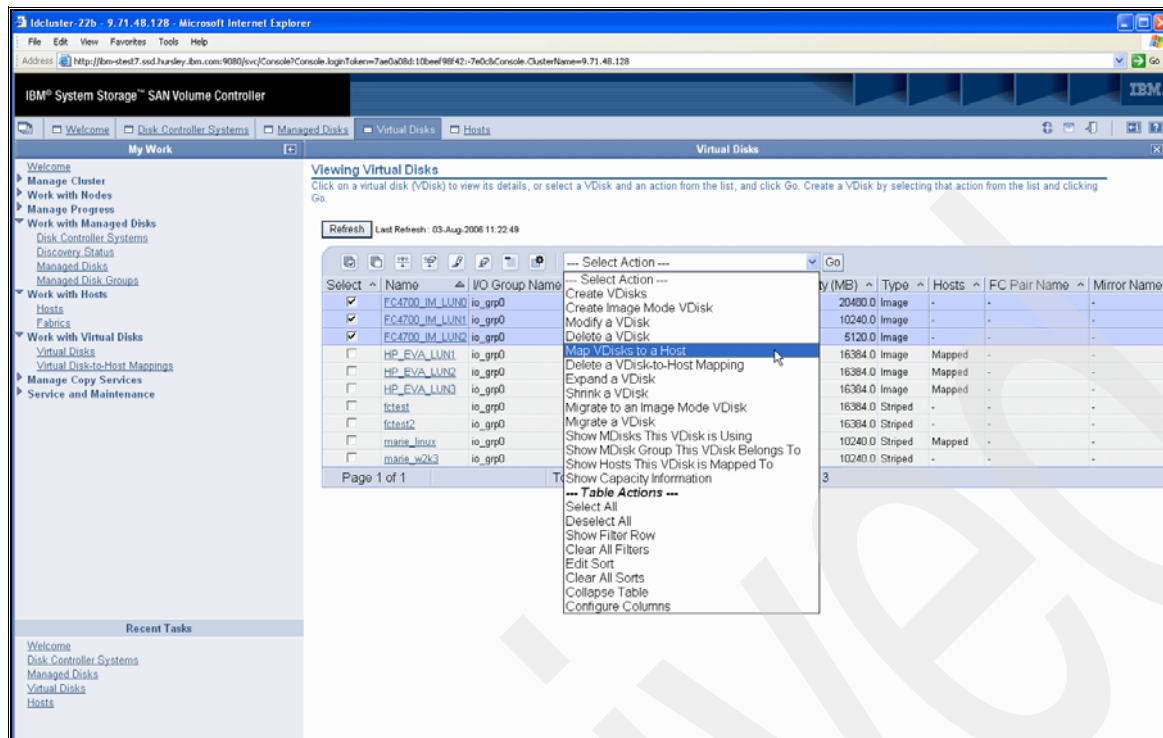

Figure 6-28 Map VDisks to host
3. You will be presented with a panel similar to that in Figure 6-28. Check the boxes in the **Select** column for all the VDisks you want to map to the host. In our example, this is the first three VDisks listed. Select **Map VDisks to a Host** from the drop-down menu as shown in the same figure.